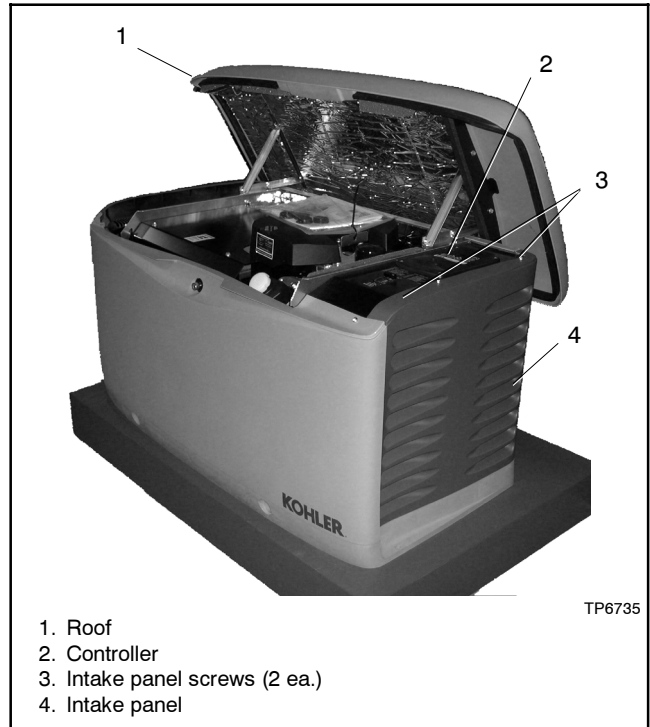

Figure 2 Enclosure Roof and Air Intake Panel
1. Open the enclosure roof. See Figure 2.
8. Remove two (2) screws on the intake panel and remove the panel. See Figure 2.